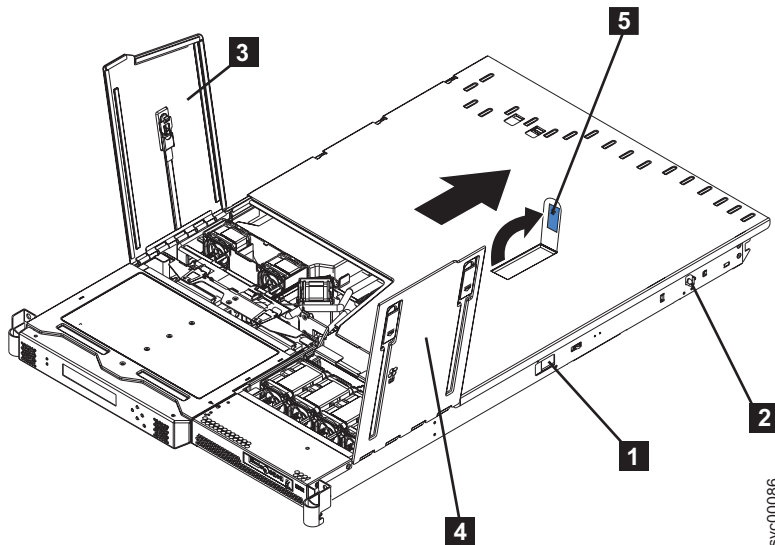

Figure 67. SAN Volume Controller 2145-8F2 or SAN Volume Controller 2145-8F4 with fan doors open
- b. Slide both side release latches (left and right) toward the front of the node. Make sure that both rail-lock pins (**2** in Figure 67) are in a vertical position, pull the node out, and remove it from the rack.